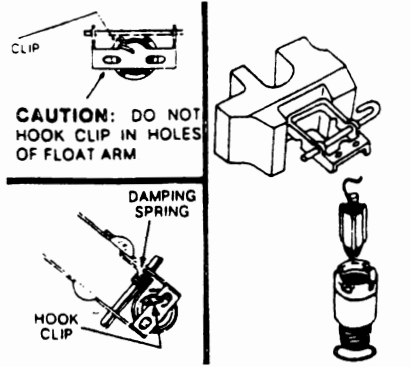

**FIG. 2
9. Refer to Figure 2 for proper installation of needle valve (34).
11. Follow this procedure when installing adapter, seal and retainer (4): Install adapter and seal onto solenoid stem, then carefully drive retainer on stem using a 3/16" socket and light hammer. Leave slight clearance for seal expansion.
12. Coat seal (4), pump stem (29), and T.P.S. plunger (12) with light oil prior to installation in carburetor.